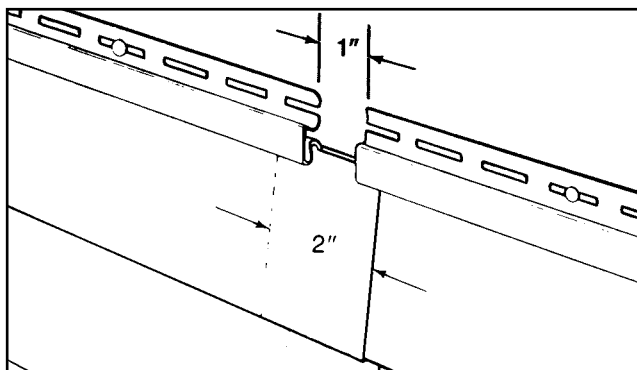

Fig 6.3
3. LAPPING END JOINTS Overlap siding panel ends at least 1' in accord with the factory prenotched cutouts (Fig. 6.3). *Do not butt nailing slots.* Leave clearance for panel expansion. Succeeding panel ends may lap over or lap under previously installed panels. Lap joints away from entrances and away from the point of greatest traffic to improve the appearance of installation. Stagger end laps so that one is not directly above another unless separated by three courses.